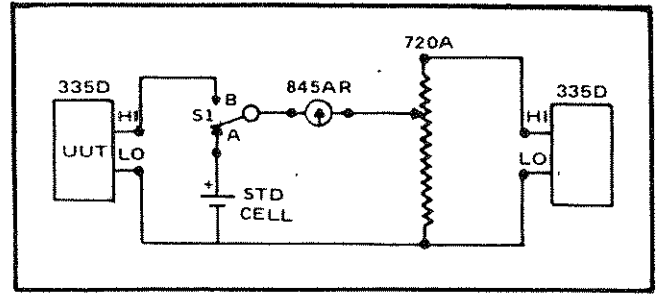

Figure 4-7. CONNECTIONS FOR SAMPLE STRING LINEARIZATION
d. Using the 7101B DC Voltage Calibration System make the equipment connections shown in Figure 4-7.